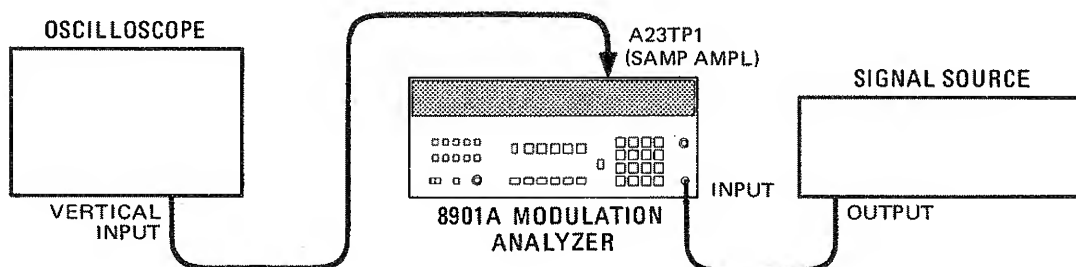

Figure 5-2. Sampler Efficiency and Offset Adjustment Test Setup
2. Connect the equipment as shown in figure 5-2. (The oscilloscope input should be ac coupled.)